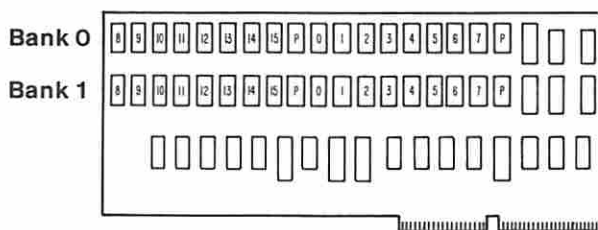

Figure 28. 512KB Memory Expansion Option
- Refer to Figure 28 on page 0200-34 and find the failing memory module identified by the error code.